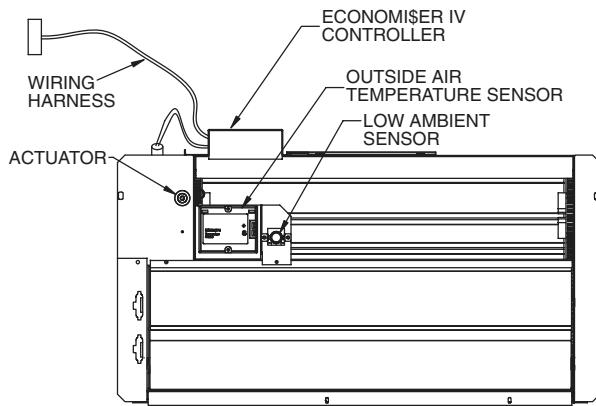
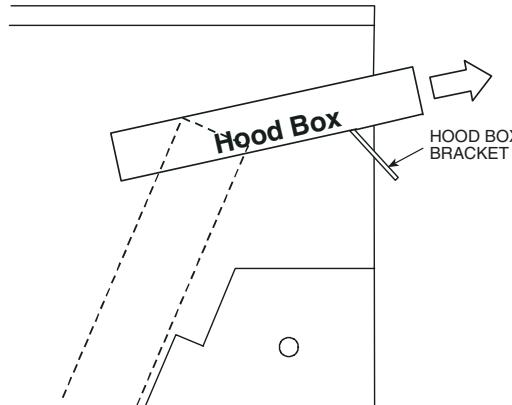
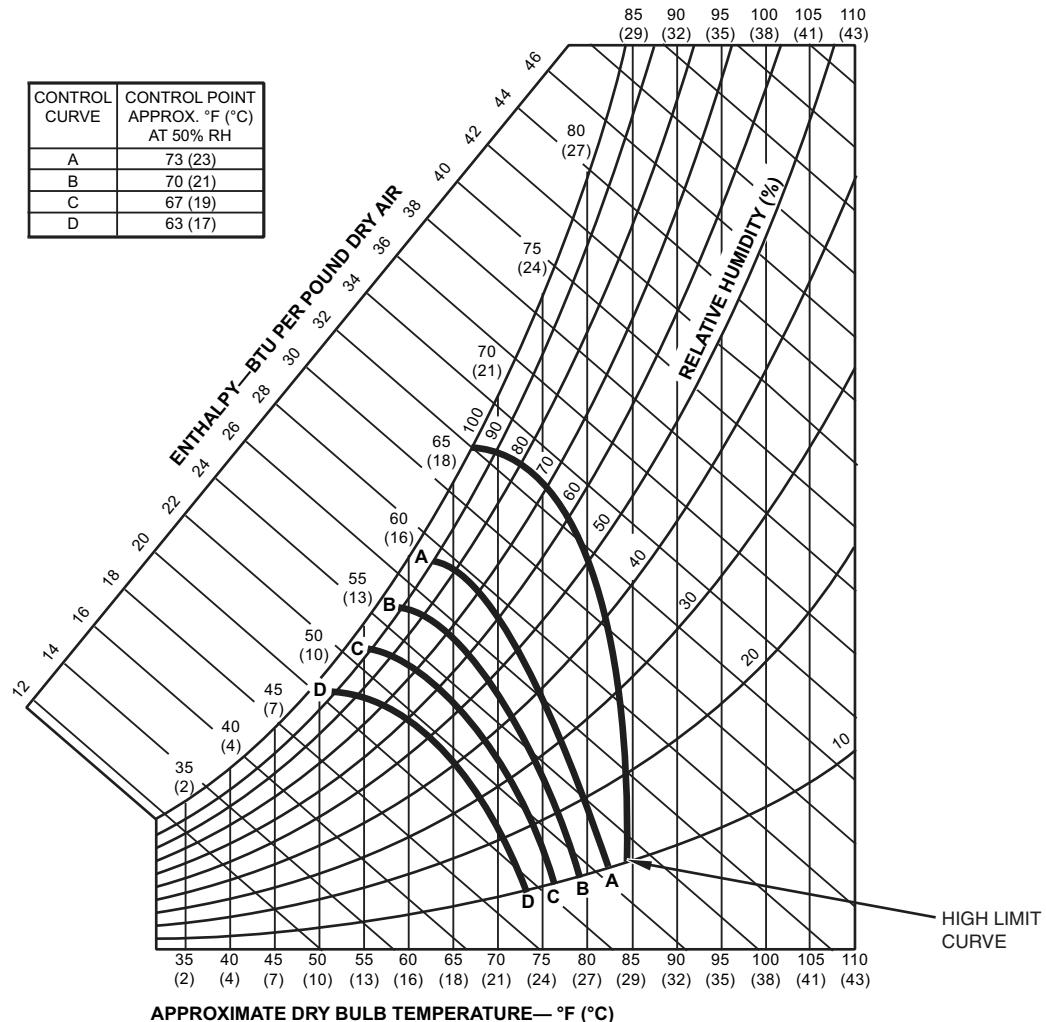

Fig. 19 — EconoMi\$er IV Component Locations
Fig. 21 — Hood Box Removal
Fig. 33 — Enthalpy Changeover Set Points
See Fig. 19 for EconoMi\$er IV component locations.
- The box with the economizer hood components is shipped in the compartment behind the economizer. The EconoMi\$er IV controller is mounted on top of the EconoMi\$er IV in the position shown in Fig. 19. To remove the component box from its shipping position, remove the screw holding the hood box bracket to the top of the economizer. Slide the hood box out of the unit. See Fig. 21.
The outdoor air temperature sensor (HH57AC074) is a 10 to 20 mA device used to measure the outdoor-air temperature. The outdoor-air temperature is used to determine when the EconoMi\$er IV can be used for free cooling. The sensor is factory-installed on the EconoMi\$er IV in the outdoor air-stream. See Fig. 19. The operating range of temperature measurement is 40 to 100 F.
The EconoMi\$er IV is equipped with an ambient temperature lockout switch located in the outdoor airstream which is used to lock out the compressors below a 42 F ambient temperature. See Fig. 19.
For enthalpy control, accessory enthalpy sensor (part number HH57AC078) is required. Replace the standard outdoor dry bulb temperature sensor with the accessory enthalpy sensor in the same mounting location. See Fig. 19. When the outdoor air enthalpy rises above the outdoor enthalpy changeover set point, the outdoor-air damper moves to its minimum position. The outdoor enthalpy changeover set point is set with the outdoor enthalpy set point potentiometer on the EconoMi\$er IV controller. The set points are A, B, C, and D. See Fig. 33. The factory-installed 620-ohm jumper must be in place across terminals SR and SR+ on the EconoMi\$er IV controller. See Fig. 19 and 34.